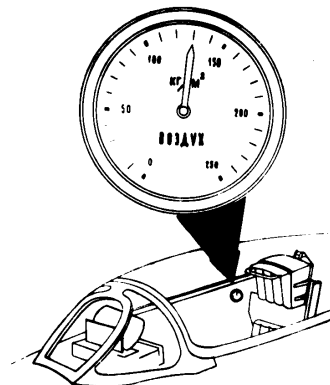

Fig.1. Check of Pressure in the Bottle of Tossing up the Hood (pressure should be 110-130kg/cm²)
- in the bottle of the system designed for tossing up the hood - 110 - 130 kg/cm² (Fig.1);